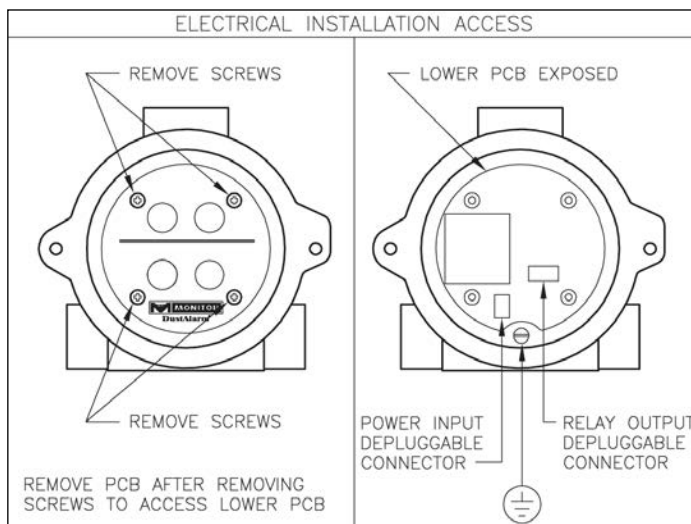

Figure 4
- 6) **Access to Terminal Connections** (See Figure 4) - Remove the screw-on cover of the **DustAlarm** unit and then the four screws (marked "for access") which hold the top board assembly in place. Unplug the inter-board cable from the back of the top board assembly and set the board aside. Electrostatic discharge (ESD) precautions should be implemented when handling PCB so it is not damaged during this process. There are two plug-in terminal blocks located on the bottom board assembly. The 2-position block [marked "L" (line) and "N" (neutral) on the circuit board] is for the power input and the 3-position block (marked "NC", "C" and "NO" on the circuit board) is for the relay contact set.